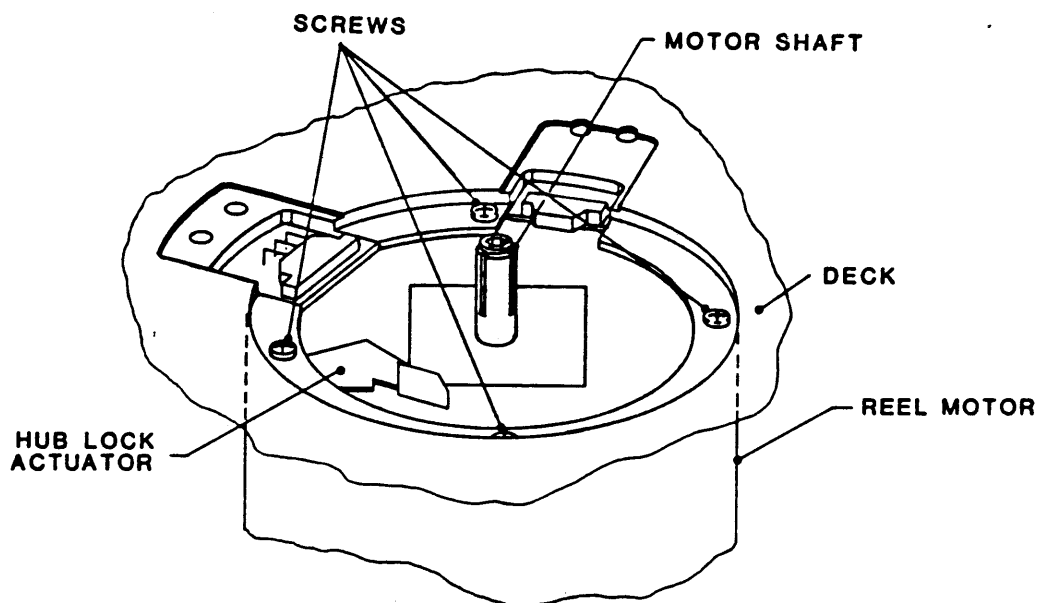

Figure 4-24 Supply Reel Motor Assembly
4.3.29 REEL MOTOR ASSEMBLY (Figure 4-24)